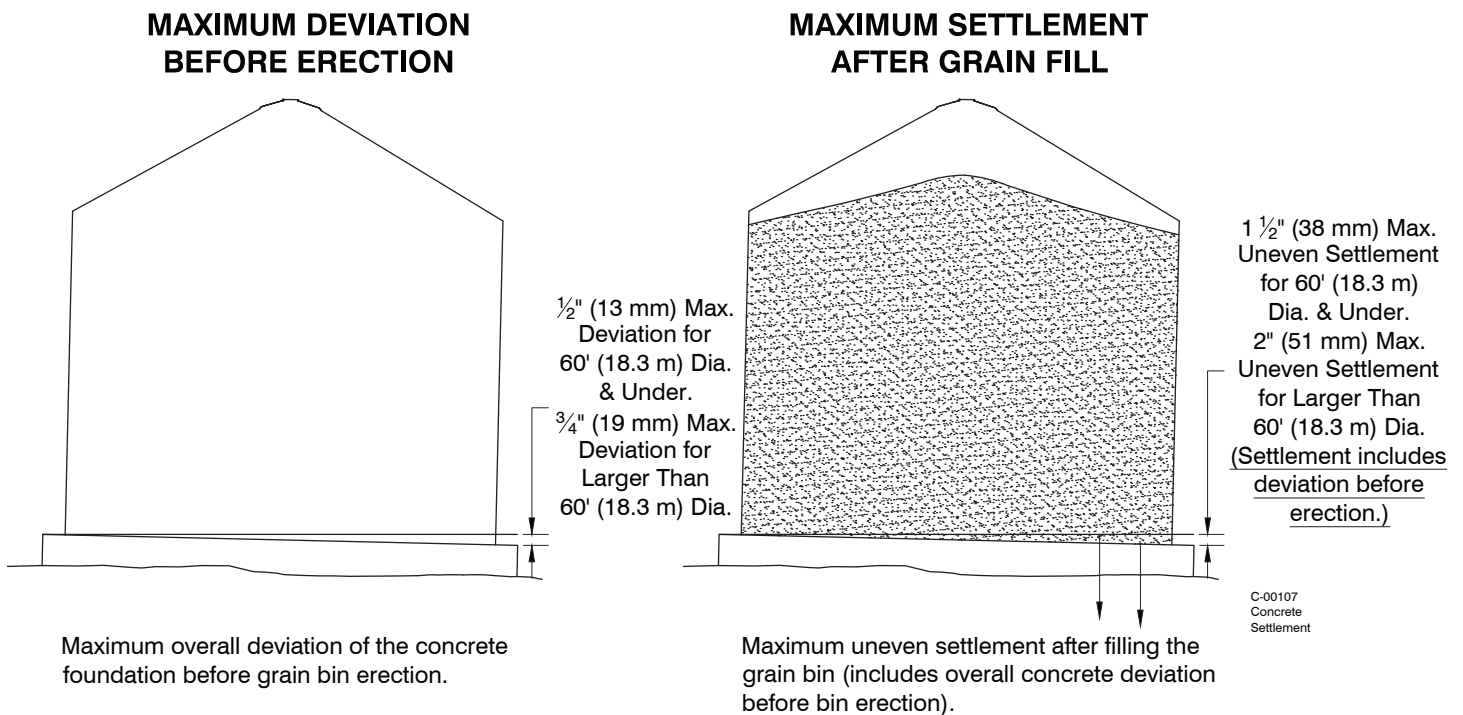

Figure 7. Concrete foundation maximum deviation and maximum settlement.
4.3.2. Maximum uneven settlement (deviation) after filling the grain bin (includes overall concrete deviation before bin erection) (see figure 7):